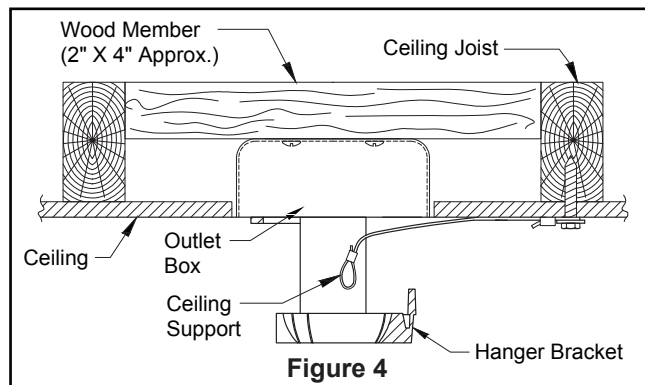

Figure 4
- ☐ 4. Loosen the two set screws and locking nuts in the downrod support of the motor assembly. Route the black, white, blue wires and safety cable through the downrod. (Figure 4)
4. Align the three big slots in the ceiling canopy to the three screws in the motor coupler. Firmly attach the canopy cover to the motor with the previously removed screws. (Figure 4)
- ☐ 2. Securely attach the hanger bracket to the outlet box using the outlet box screws and washers supplied with the fan. (Figure 4)
- ☐ 3. Using the 3/8" x 2" lag bolt and flat washer, attach safety cable to ceiling joist or wood structural member. The lag bolt will pass through the flat washer, safety cable loop, and into the building structure (Figure 4). You will first drill a 1/4" pilot hole into the building structure to prevent splitting or cracking.
NOTE: Ceiling support cable cannot be secured to outlet box only, it must be directly secured to ceiling joist or structural member using the 3/8" x 2" lag bolt and flat washer. (Figure 4)
- ☐ 4. If airflow is desired in the opposite direction, turn the fan off and wait for the blades to stop turning. Slide the reverse switch on the switch cup assembly to the opposite position and turn fan on again. (Figure 4)